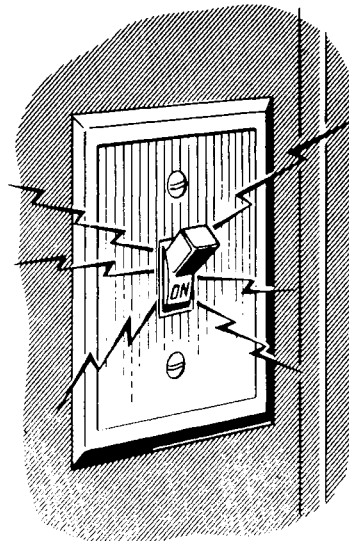

Figure 3
- 9. Switches not working properly (sparks fly as switch is flipped) (Figure 3) _____